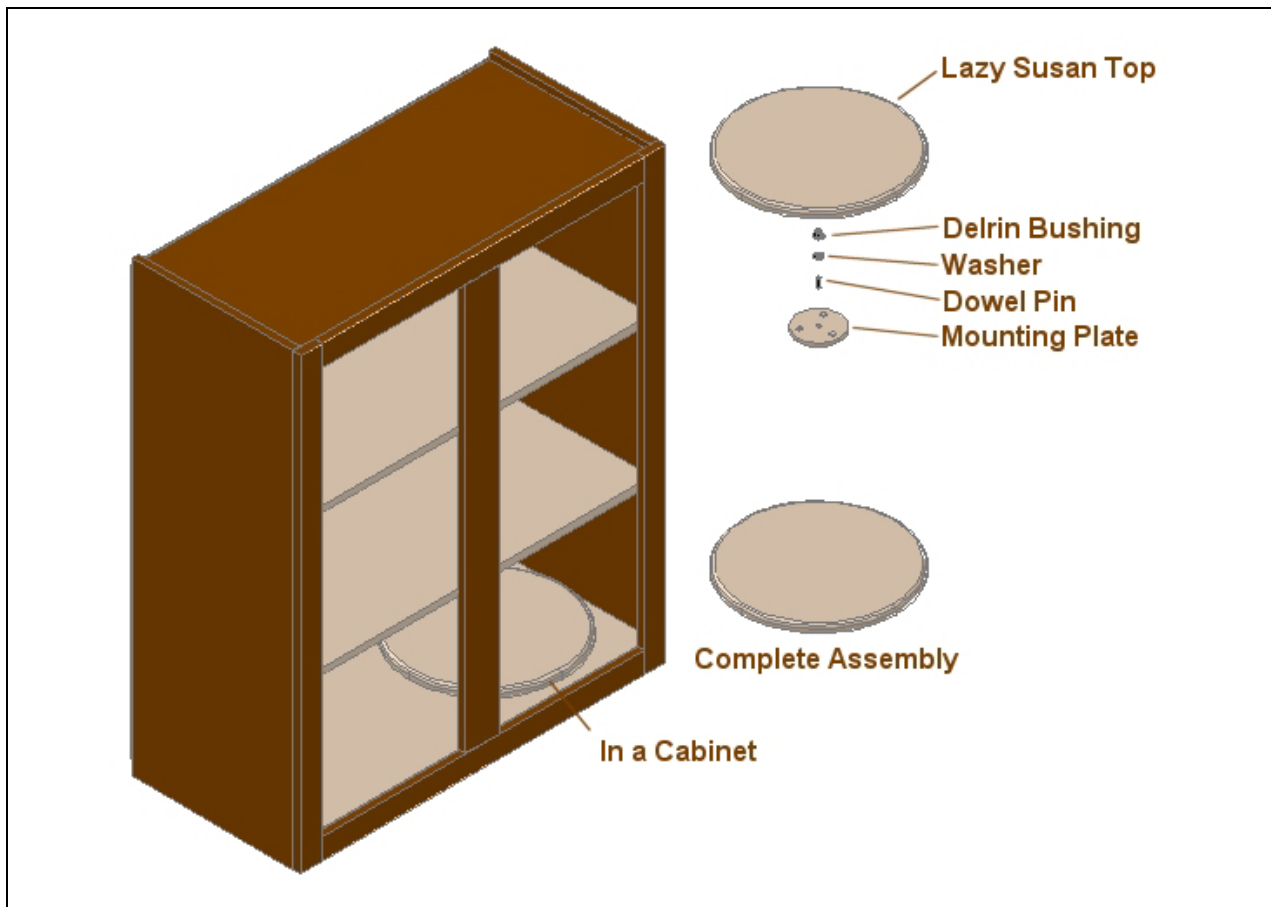

Figure 8.1 – Sheet Metal Part without any Bends
In Figure 8.1, we have a cabinet assembly that would be found in any kitchen and mounted on the lower right shelf is a lazy Susan assembly. For this rotating mechanism, we will use a bushing, dowel pin, washer and mounting plate to hold the lazy Susan top in position. The senior designer wants us to use a $\frac{1}{4}$ inch diameter austenitic stainless steel dowel pin with a Delrin bushing instead of using an off the shelf lazy Susan bearing.
In this chapter, we completed six drawings, but in other designs, like with a cabinet hinge, we just have 3 parts. The component we mount on the cabinet, the pin and the section we at insert on the door. In the next World Class CAD challenge, we will ask those that are ready, to design a hinge for the cabinet in Figure 8.1. With the experience we now have, this task can be accomplished.
*** World Class CAD Challenge 08-39 * - Save and close the Lazy Susan Assembly drawing file. Create a new file and make a part drawing for a door hinge for the cabinet in Figure 8.1, dimension, and place the border and notes in less than 60 minutes. Continue this drill three more times for various other pin designs, each time completing the drawing under 60 minutes to maintain your World Class ranking.**